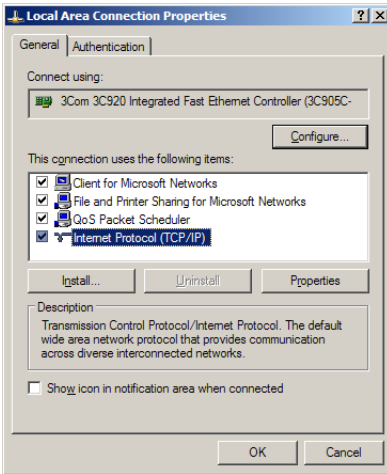

Figure 6-4 Local Area Connection Properties
4. Highlight the “Internet Protocol (TCP/IP)” item in the list, and click on the “Properties” button. Refer to Figure 6-4.